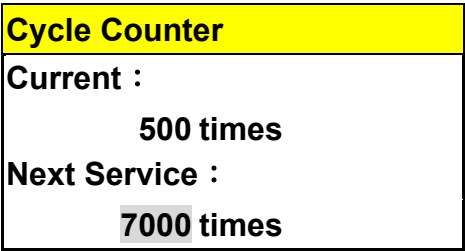

Figure 145
C. Press  or  button to change next service times, and press  button to store the parameter in Figure 145.